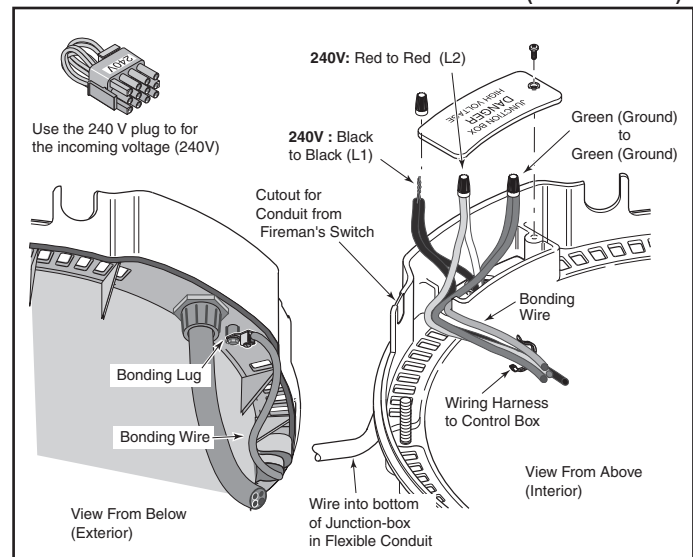

Figure 27.
8. Connect the **L1** of the power supply to the **Black** wire, the **L2** or neutral lead to the **Red** wire, and the **Ground** wire to the **Green** wire. A time clock controlling the filter pump should have a low-voltage Fireman’s Switch that switches off the heater at least 15 minutes before shutting off the pump, see Figure 27. Always use crimp type connectors when connecting two wires.